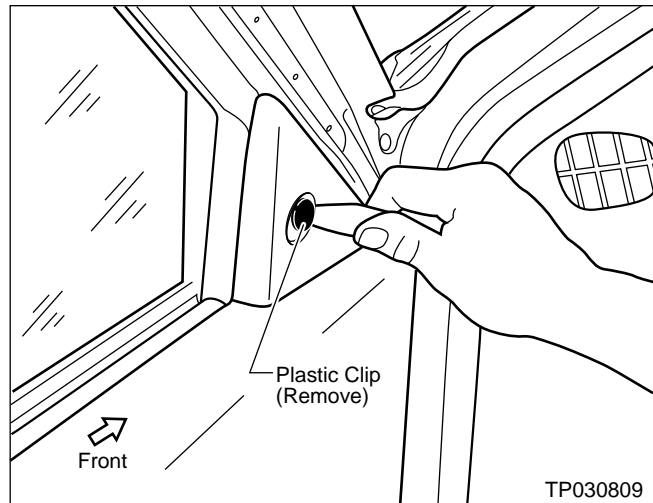

Figure 23
1. Use a Plastic Pry Tool to carefully remove the Plastic Clip from the door panel (see Figure 23).